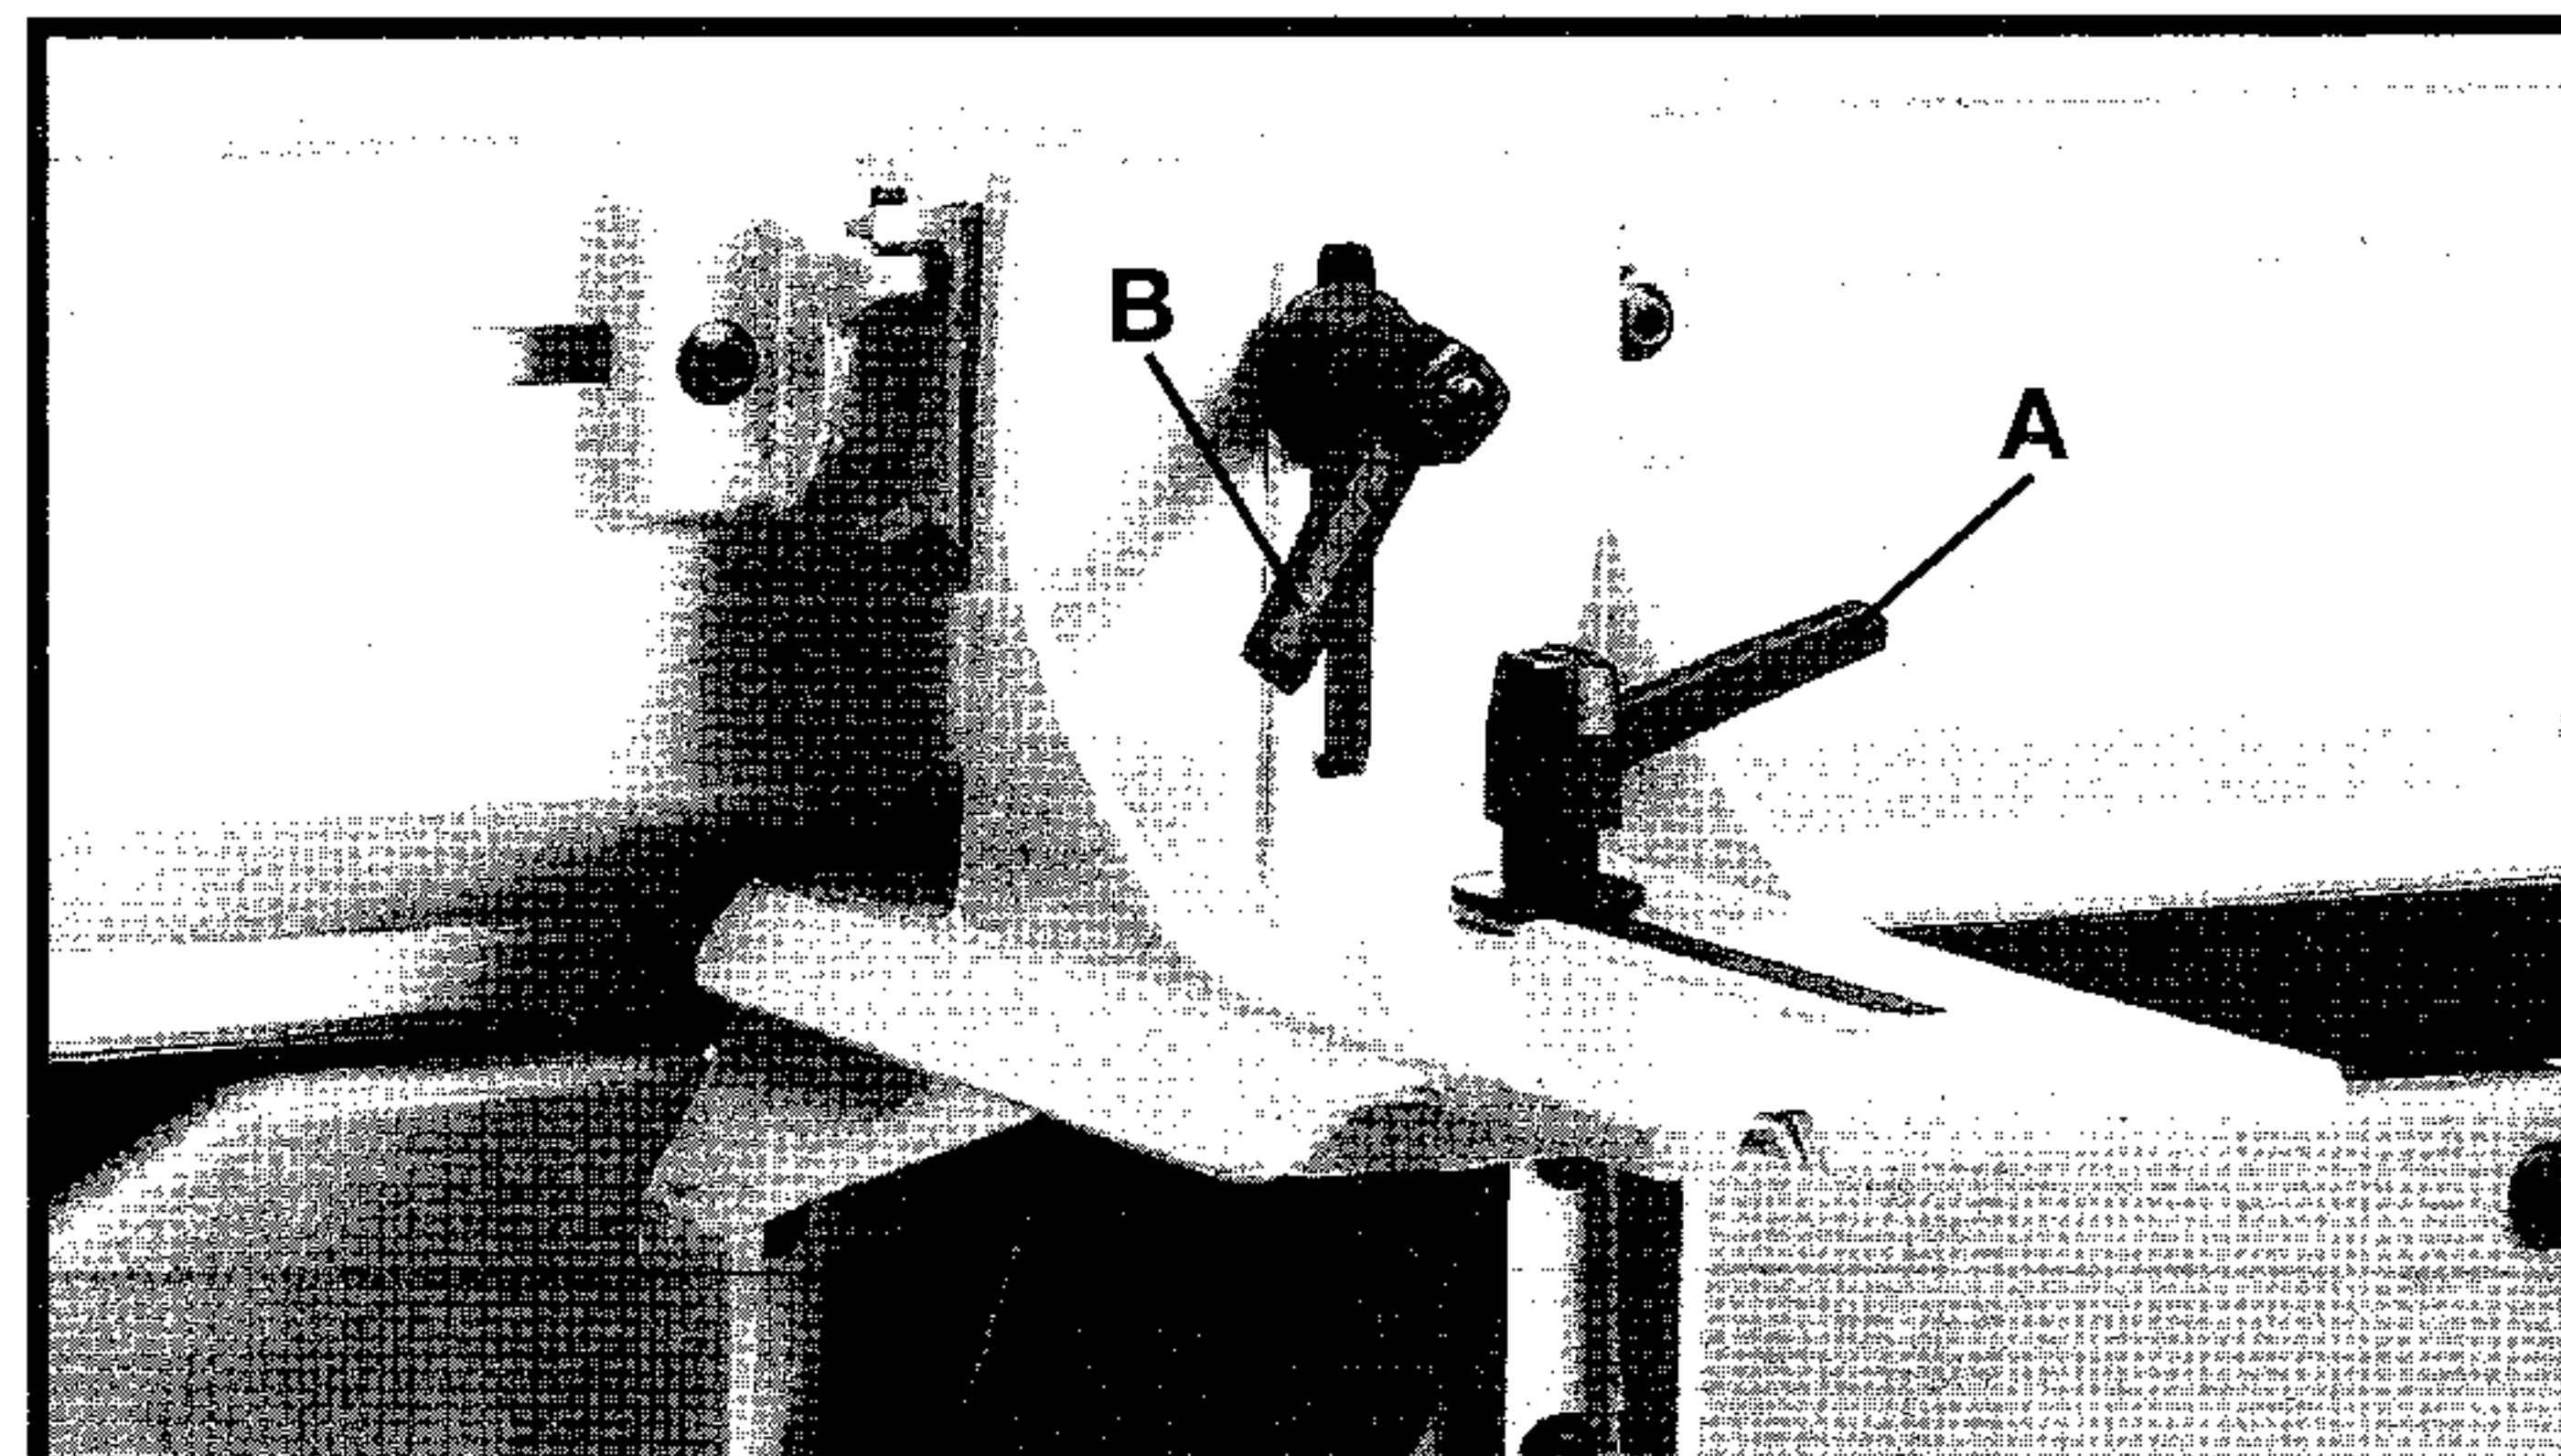

Fig. 25
1. To move the fence across the table, loosen lock lever (A) Fig. 25, slide the fence to the desired position on the table and tighten lever (A).
2. To tilt the fence, loosen lever (B) Fig. 25, and tilt the fence to the desired angle. Then tighten lever (B).